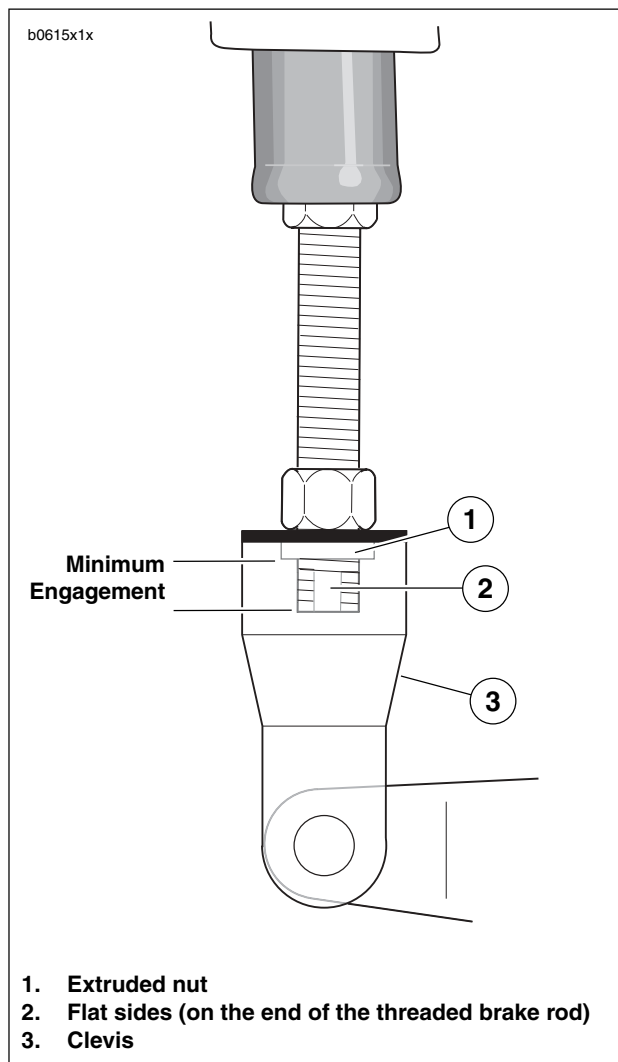

Figure 1-11. Critical Measurements with Typical Brake Pedal
- See Figure 1-11. On the very end of the threaded brake rod, are two flat sides (2). To ensure proper thread engagement with the clevis (3), the flat sides must extend below the extruded nut (1) in the clevis by at least one full thread. This is the minimum rod engagement.